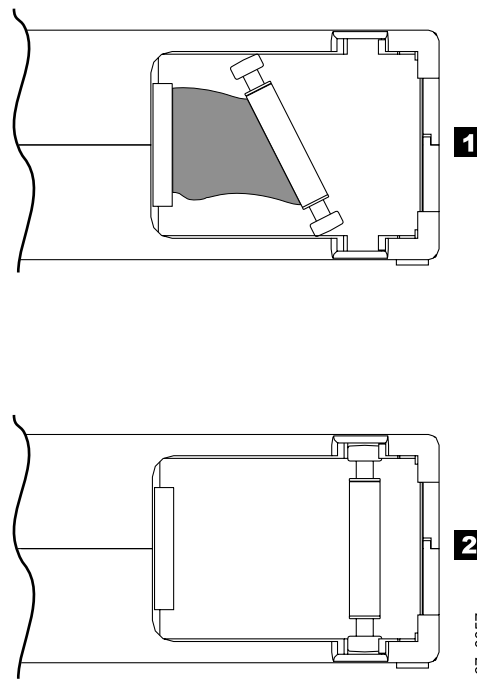
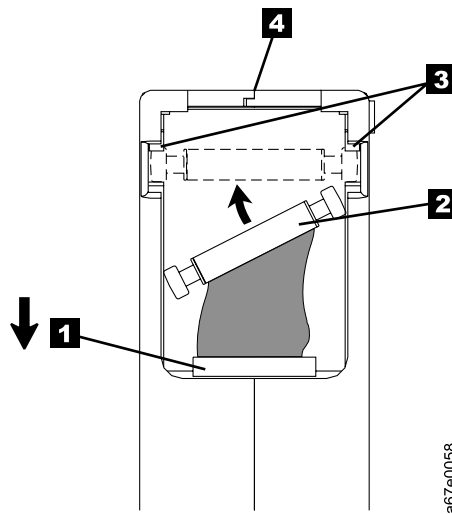

Figure 15. Leader pin in the incorrect and correct positions. The cartridge door is open and the leader pin is visible inside the cartridge.
Figure 16. Placing the dislodged leader pin into the correct position. The cartridge door is open to show the leader pin.
- Do not drop the cartridge. If the cartridge drops, slide the cartridge door back and ensure that the leader pin is properly seated in the pin-retaining spring clips (see Figure 15 on page 41). Inspect the rear of the cartridge (the part that you load first into the tape load compartment) and ensure that there are no gaps in the seam of the cartridge case (see **4** in Figure 16 on page 42). If the leader pin has become dislodged or if there are gaps in the seam of the cartridge case, go to “Repositioning or Reattaching a Leader Pin” on page 41.
A leader pin that is improperly seated inside a cartridge can interfere with the operation of the autoloader. Figure 15 shows a leader pin in the incorrect **1** and correct **2** positions.
1. Slide open the cartridge door ( **1** in Figure 16) and locate the leader pin **2** (you may need to shake the cartridge gently to roll the pin toward the door).